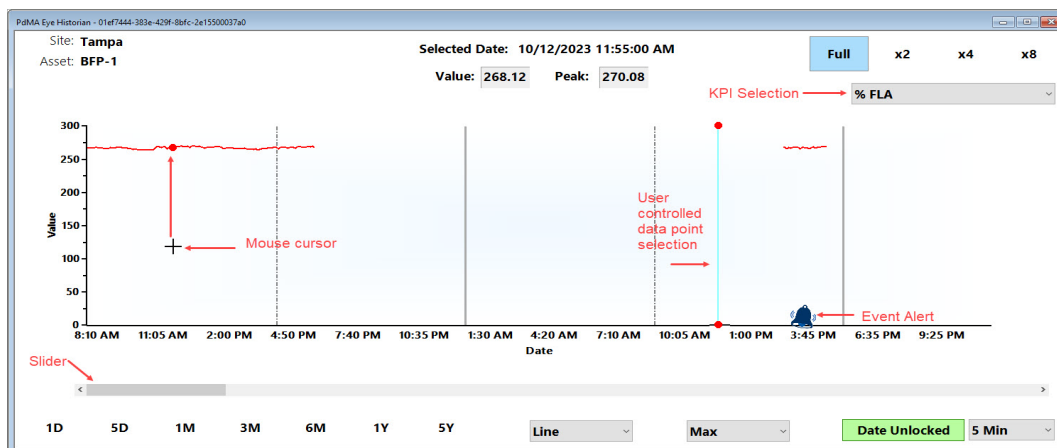

Figure 8: Historian Window
The Historian window (Figure 8) opens when the Historian icon  is selected from the toolbar or the Historian button is selected in the Site Condition window. Historian allows you to search for and view key performance indicator (KPI) time series results. This is useful for trending and troubleshooting. Currently it displays test values, for twenty KPIs. To access Historian an asset or segment must be selected.
Clicking on the graph causes a line to be inserted at that spot. This is shown in Figure 8 as a light blue line with red dots at the top and bottom. The date and time at the top of the window will change according to the placement of the line.
2. In the WatchList Create window (Figure 8 on page 12) fill in the name for your list, check the Shared box if you wish others to be able to view or make changes to this list. Enter a description. All other information is automatically entered for you. Click **Create**. The  icon and list name will appear on the layout displayed in the upper left section of the WatchList window. The lower left section gives the details of the WatchList.